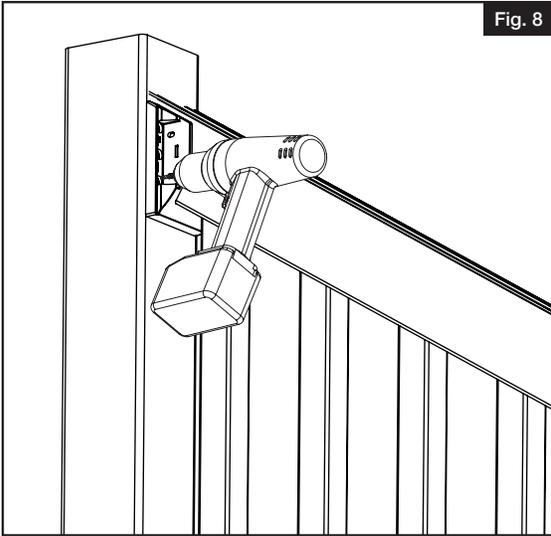

Fig. 8
- a. Make sure rails are fully seated with balusters and level and centered to post sleeve. While holding the top bracket snug to rail from underneath, and using $\frac{1}{8}$ " drill bit, pre-drill first top bracket screw hole (Fig. 8). Drill through bracket hole, vinyl post sleeve and vinyl insert and loosely install first #10 x $1\frac{1}{2}$ " screw.